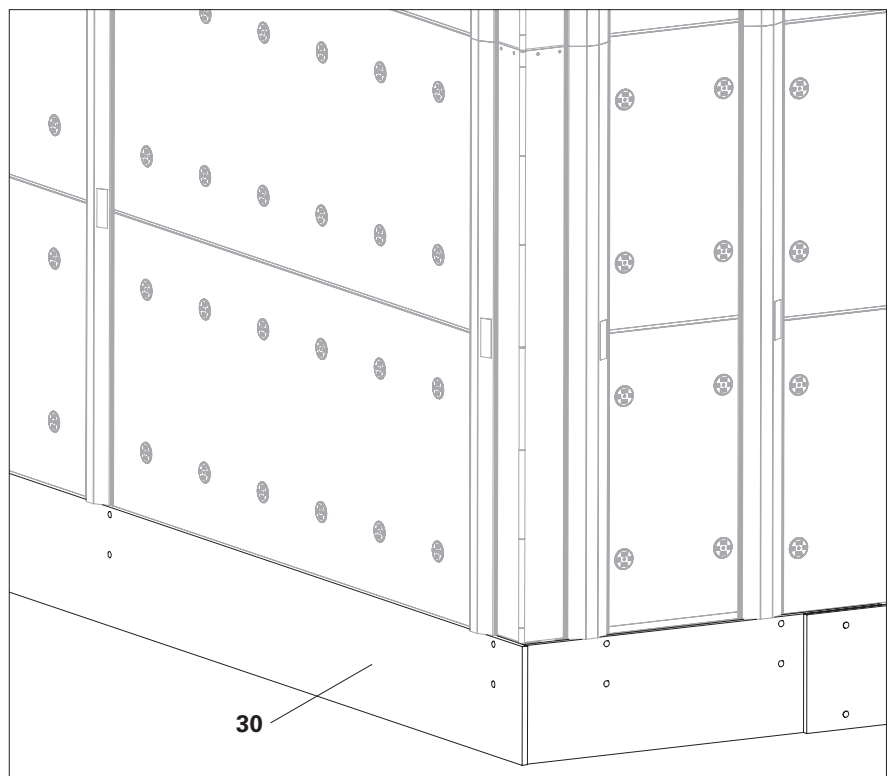

Fig. C3.06
2. Close the bottom end with a keder tarpaulin or wooden panel (30). See chapter "Floor finish" on page 33. (Fig. C3.06)